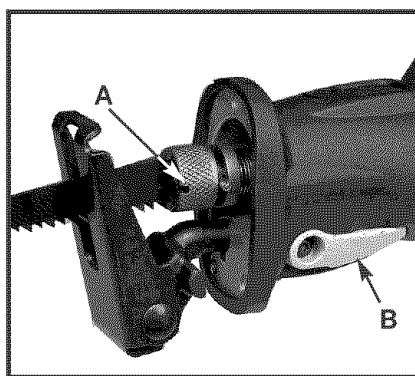

Fig. 3A
4. Insert the blade into the clamp until it hits bottom. Allow the release collar (A) **Fig. 3A** to rotate clockwise to lock the blade in place. Close locking lever (B).
(A). Allow the release collar to rotate clockwise to lock the blade in place as shown in (A) **Fig. 3A**.